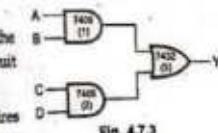

Fig. 4.7.3
- The logic gates are available in the Integrated Circuit (IC) packages. When we implement logic circuit using basic gates, we require ICs for AND, OR and NOT gates.
- Consider a combinational circuit which requires two 2-input AND gates and one 2-input OR gate as shown in Fig. 4.7.3.